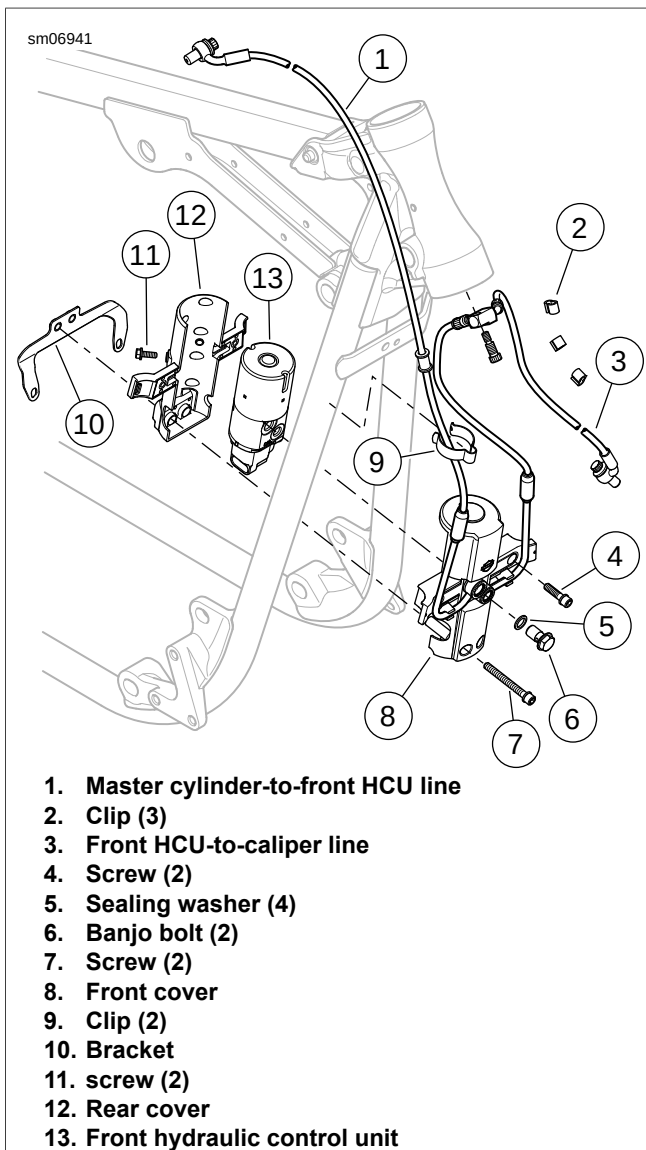

Figure C-4. Front Hydraulic Control Unit
3. See Figure C-4. Remove banjo bolts (6) to release brake lines from front HCU. Discard sealing washers.
4. Remove screws (4, 7, 11) and separate front HCU (13) from front and rear covers (8, 12).
1. See Figure C-4. Place rear cover (12) on front HCU (13) and secure with screws (11). Tighten screws to 24-36 **in-lbs** (2.7-4.1 Nm).
2. Attach electrical connector to front HCU (13).
3. Place front cover (8) into position and secure with screws (4, 7). Tighten screws to the following torque specs.
- a. Screws (7) to 54-84 **in-lbs** (6.1-9.5 Nm).
- b. Screws (4) to 48-72 **in-lbs** (5.4-8.1 Nm).
4. Install banjo bolts (6) with **new** sealing washers (5). Tighten to 120-144 **in-lbs** (13.6-16.3 Nm).